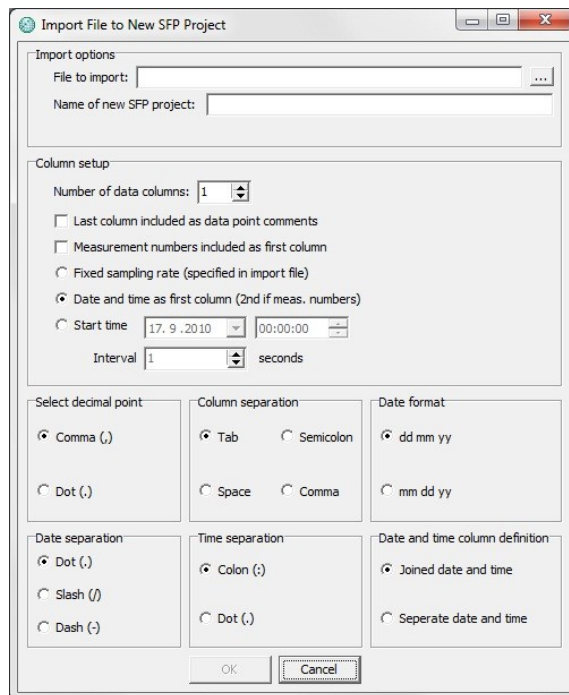

Figure 13.4 Import file to new SFP project
- 3. No header is included in the file. The user defines the start date, time and the sampling frequency in the import window (see figure 13.4).
Browse for the file you want to import and name the project (see figure 13.4).